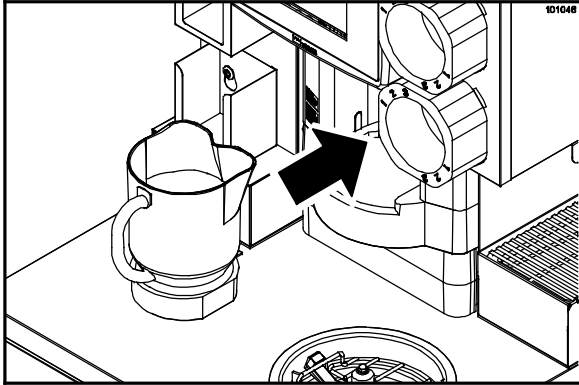

Figure 21
- Place the blender pitcher in the dispensing area. (See Figure 21.)